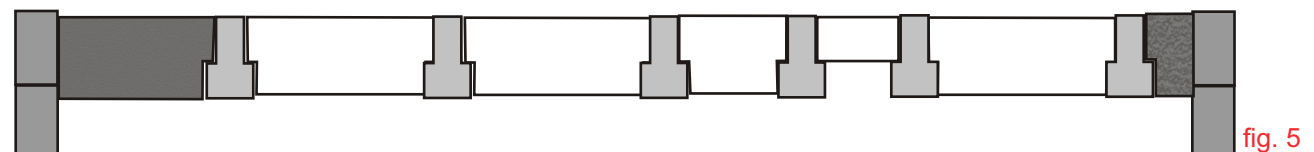

fig. 5
7. When the TS End panel is in position, the final TS infill panel can be installed as in fig.5.